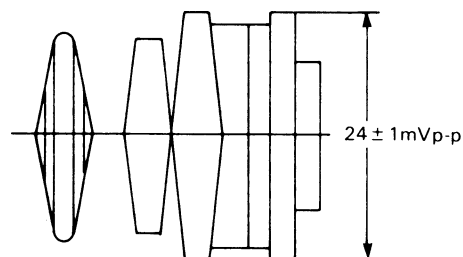

Figure 2-8.
- c) Adjust R518 (recording chroma control) to that the red level be  $24 \pm 1\text{mVp-p}$  as shown in Fig. 2-8.